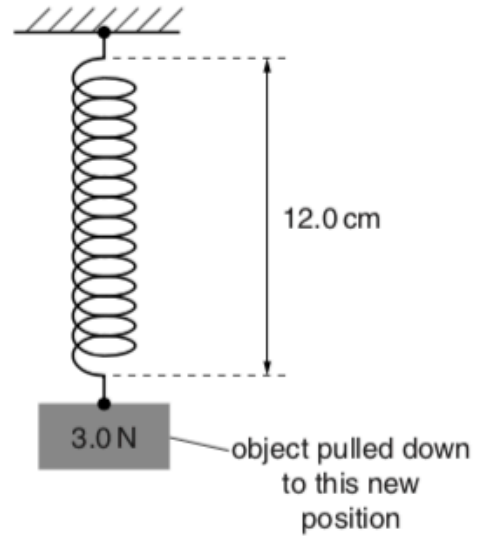

Fig. 7.2
(b) The object is pulled vertically downwards. Fig. 7.2 shows the new length of the spring.
- (ii) The object is released from its position shown in Fig. 7.2. Calculate the initial upward acceleration  $a$  of the object.